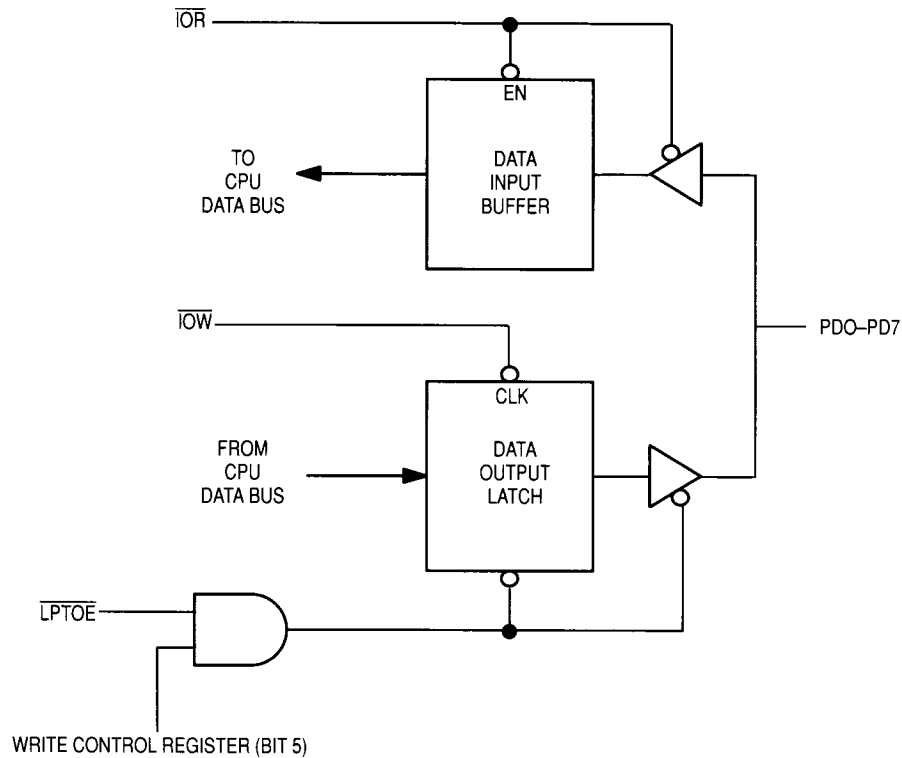

Figure 10. \overline{LPTOE} Functional Block Diagram
The LPTOE pin allows the printer bus (PD0–PD7) to be used as an input. In the typical application this pin is grounded so that the printer bus is only an output. When this pin is taken high the printer bus can be used to input data (e.g., from a scanner). See Figure 10 for the functional block diagram of LPTOE. When LPTOE goes high and bit 5 of the Write Control Register (WCR) is 1 then the output data latch is put in a three-stated mode and the data buffer is used to input data from the PD0–PD7 bus to the D0–D7 bus on the
microprocessor side of this device. When LPTOE and bit 5 of WCR is high or 1 will the output buffer be three-stated. In any other combination the output buffer will be looped back into the input buffer. Table 18 summaries this information. See also Figure 10 for more information.
- 5 Enables the printer port to be used as an input port. This bit defaults to 0, which in the configuration for output. See Figure 10 and Section 12.0 for more details.